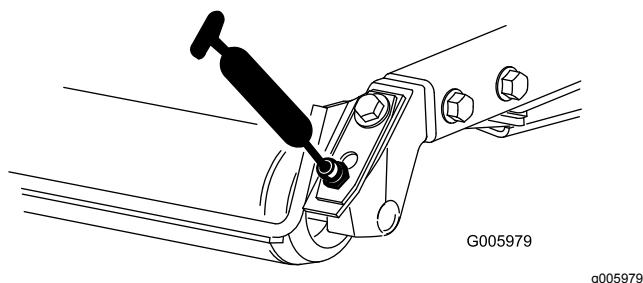

Figure 63
- Cutting-unit carrier-arm bushings (1 per mower deck) as shown in Figure 63
- Rear roller bearings (2 per mower deck) as shown in Figure 63